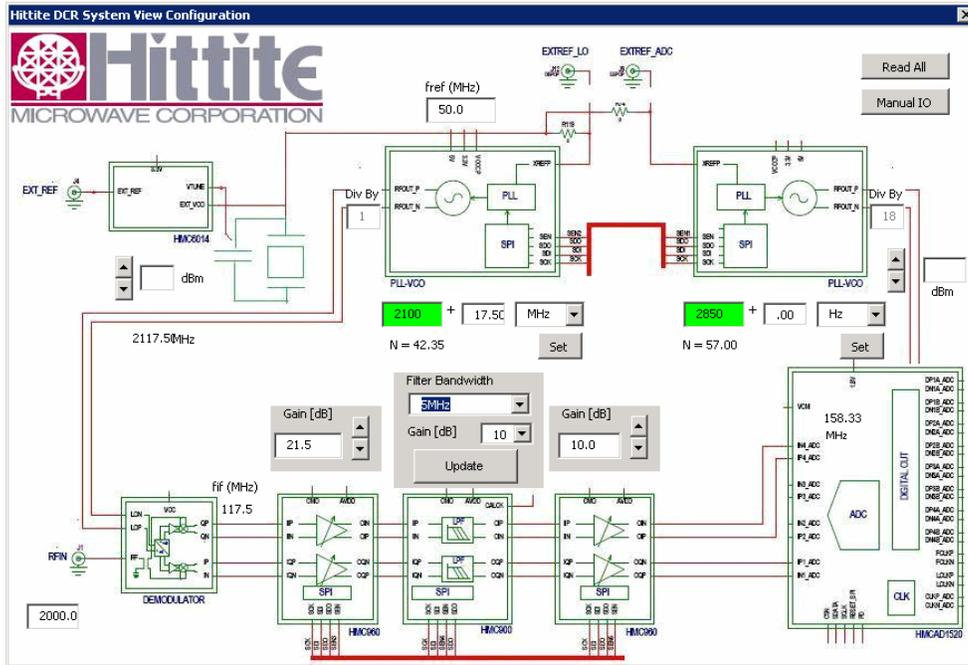
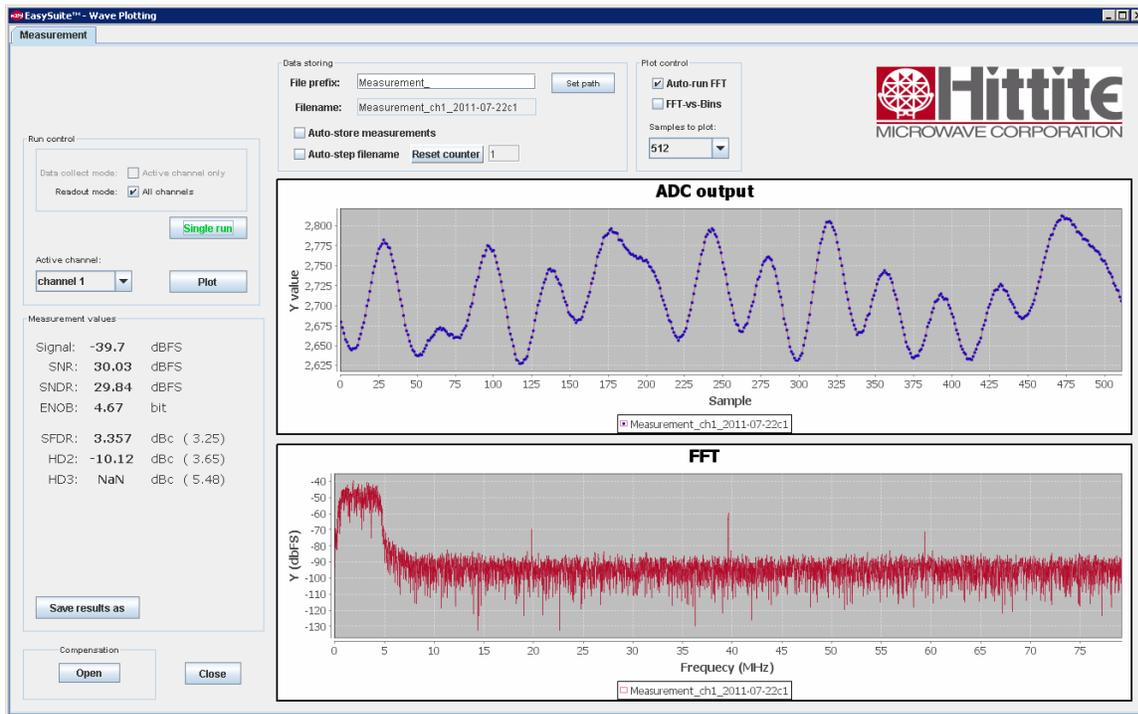

Figure 32. Programming the LO frequency to 2117.5 MHz to convert the signal centered at 2120 to baseband
Figure 33. Signal received at baseband (centered at 2.5 MHz) with filter bandwidth set to 5 MHz
21. Figure 32 illustrates the DCR System View Configuration where the LO is adjusted to generate a frequency of 2117.5 MHz which is mixed with a signal frequency of 2120 MHz and demodulated down to 2.5 MHz shown in Figure 33. The filter bandwidth is set to 5 MHz, and as can be seen in Figure 33 does not impact the spectrum of the received signal.